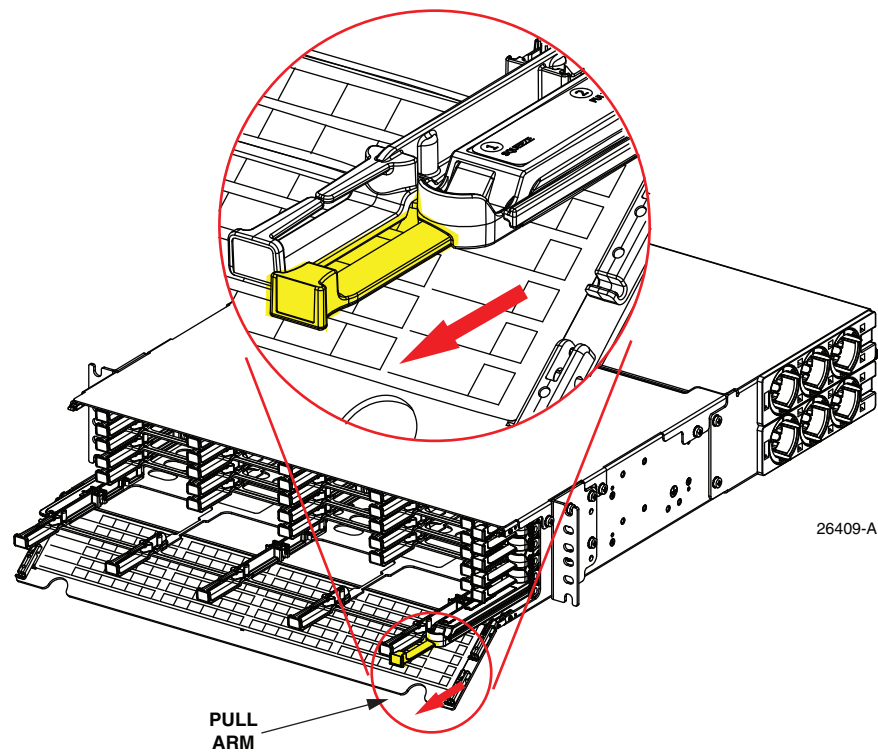

Figure 11. Sliding Out Blade to First Position
1. To slide out a blade to the first (access) position, pull out the pull arm on the right side of the panel until the blade contacts the first detent, as shown in Figure 11.